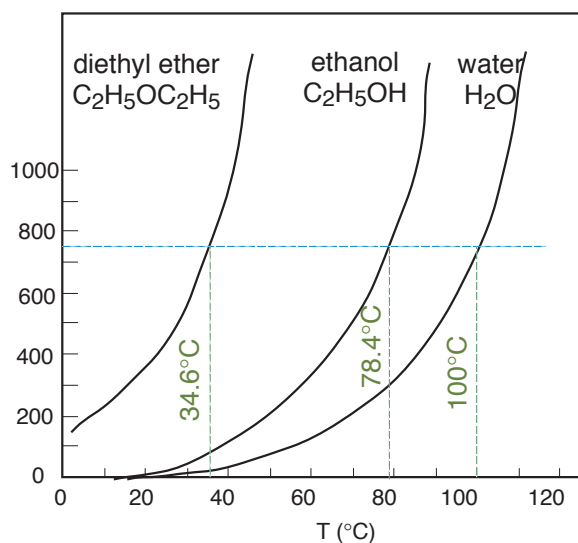

Figure 8: Vapor pressure as a function of temperature.
**Vapor pressure and temperature** The escaping tendency of molecules from a phase always increases with the temperature; therefore the vapor pressure of a liquid or solid will be greater at higher temperatures. As Fig. 8 shows, the variation of the vapor pressure on the temperature is not linear. However, a plot of the logarithm of the vapor pressure as a function of the reciprocal temperature is linear.